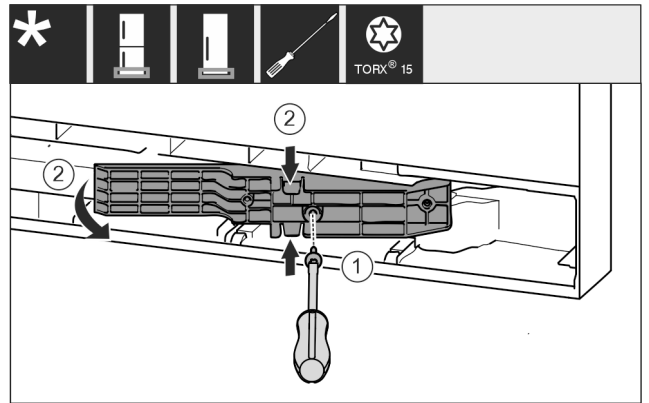

Fig. 8 *
- ▶ Skrutkovačom T15 uvoľnite skrutky. Fig. 8 (1)*
- ▶ Vytiahnite adaptér. Fig. 8 (2)*